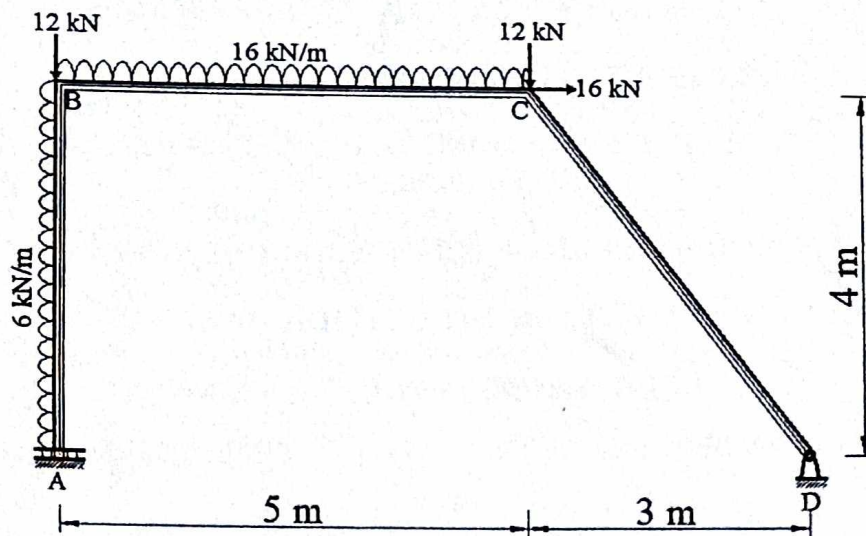

Figure 1.1
- Attempt Any other four (4) questions
- b) An asymmetric portal frame is supported on a roller at A and pinned at support D as shown in Figure 1.1 below. For the loading indicated: